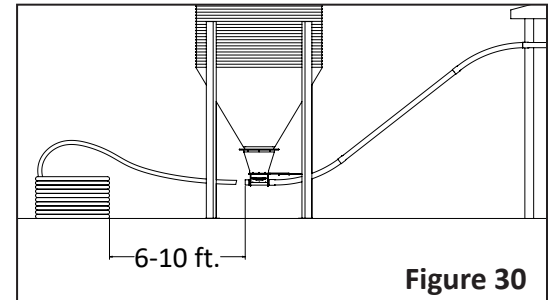

Figure 30
1. Place the auger coil approximately 6-10 ft. (1.8m-3.1m) away from the end of boot, as shown in Figure 30.